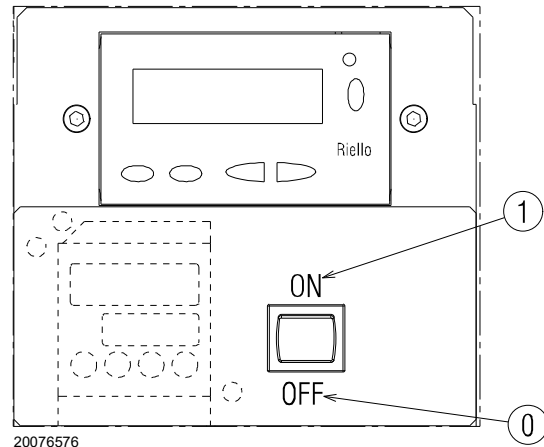

Fig. 26
Close the thermostats/pressure switches and set the switch of Fig. 26 to "1/ON".
- put the switch of Fig. 26 to "0/OFF" and wait until the flame control carries out the switching off phase;
The burner is in the heat request waiting mode, or the selector "0-1" (Fig. 26 on page 30) is at "0".